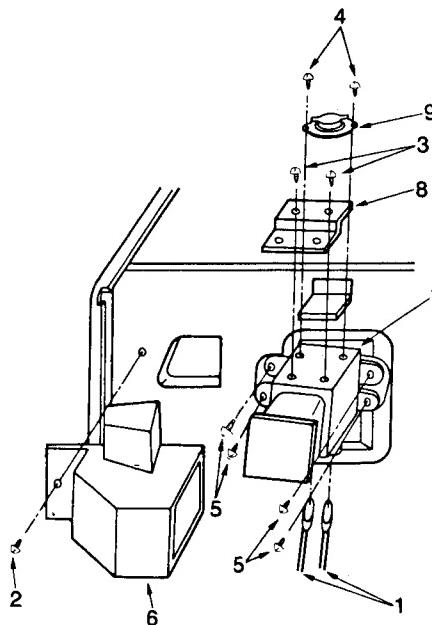

Fig. 20
7. Magnetron Assembly Removal (Refer to Fig. 20)